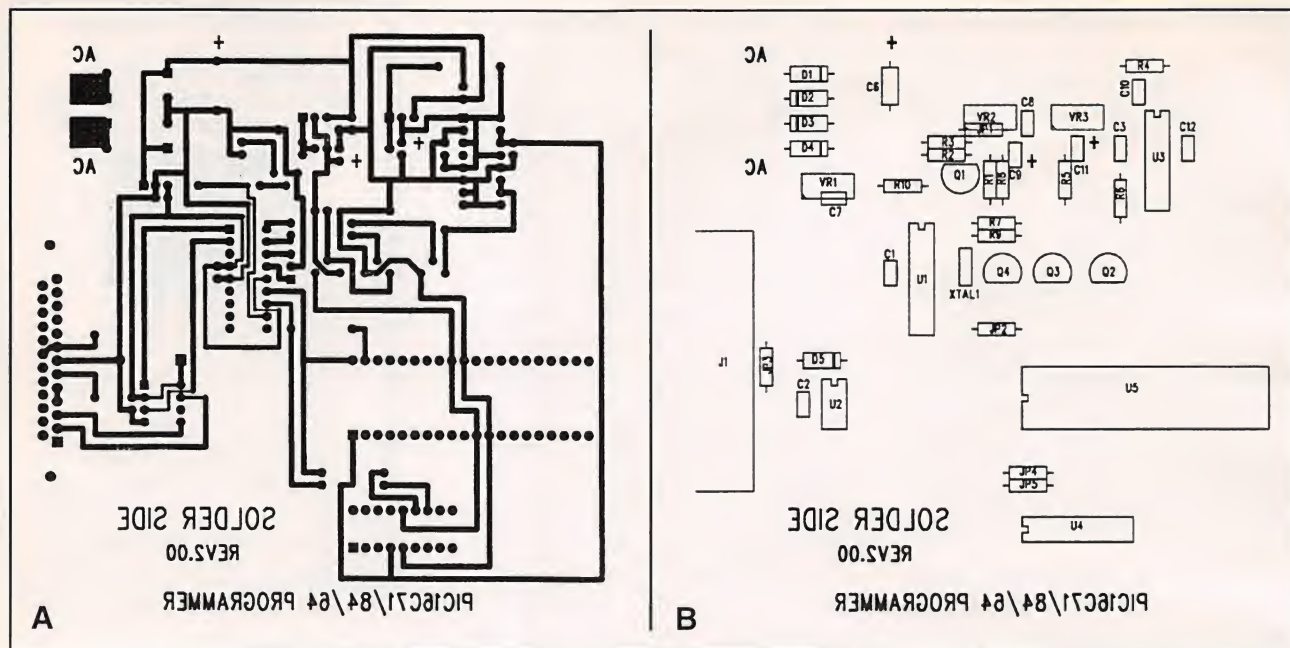

Fig. 11. Shown here are (A) actual-size etching-and-drilling guide for Programmer's printed-circuit board and (B) wiring guide for board.
Begin building the Programmer by fabricating a printed-circuit board onto on which you'll wire together the components, blowing up the etching-and-drilling guide given in Fig. 11(A) to 155% its size. If you prefer not to make your own pc board, you can buy a ready-to-wire one from the source given in the Note at the end of the Parts List.
When you're ready to begin populating the board, refer to Fig. 11(B). Begin by wiring the power supply circuit. First install *D1* through *D4* and *C6*, making sure you properly orient each of these components. Next, apply 18 volts ac across the two points labeled AC in Fig. 11(B), and use a dc voltmeter or a multimeter set to the dc-volts function to measure the voltage across *C6*. If you obtain a reading of approximately +25 volts here,